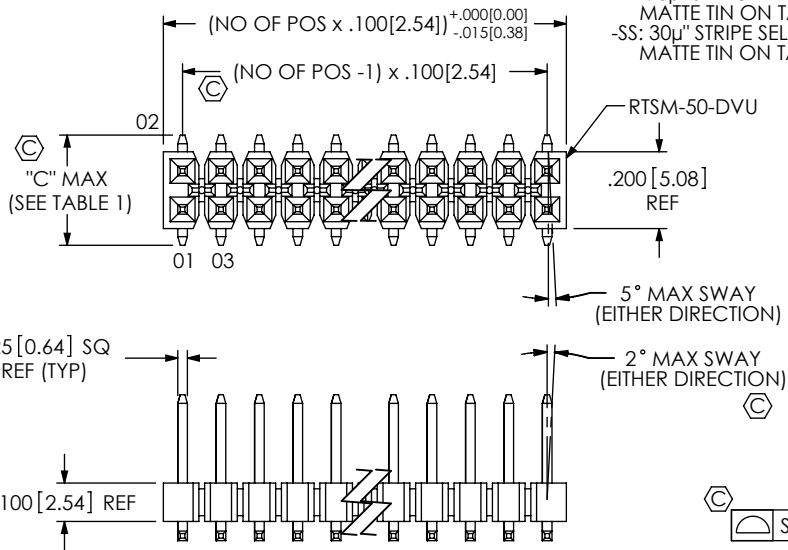
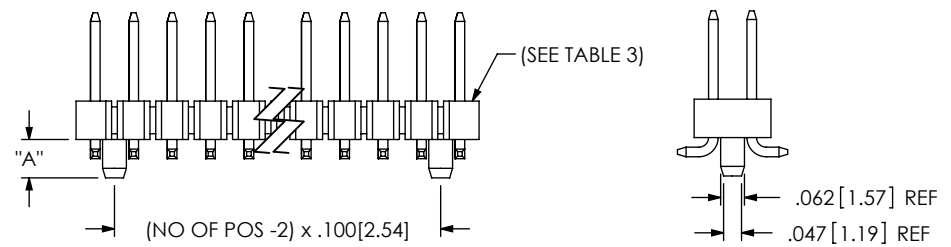

FIG 1
FIG 3
- A: ALIGNMENT PIN (SEE FIG 3, SHT 2) (FOR MOLDED TO POSITION, USE RTSM-XX-DVU-XX BODY) (FOR STAKED, USE RTSM-50-DVU BODY, 5 POS MIN) (LEAVE BLANK FOR NO HOLD DOWN OPTION) (USE RTSM-50-DVU SEE FIG 1, CAN BE CUT TO POSITION)
(DIFFERENT AS SHOWN, OTHERWISE SAME AS FIG 1)